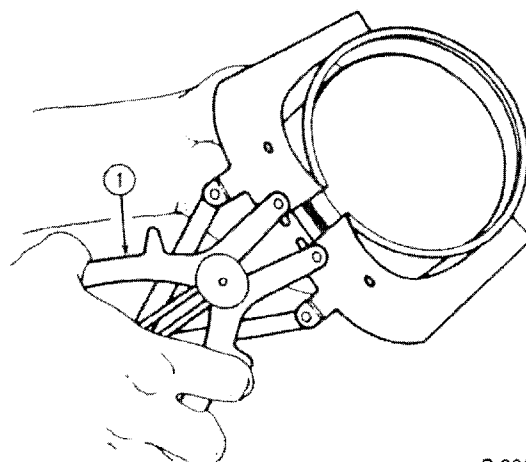

Figure 52
3. Use a suitable ring expander to remove the piston rings, Figure 52.